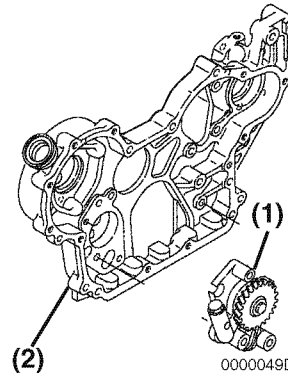

Figure 9-30
3. Reinstall the oil pump assembly (Figure 9-30, (1)) into the gear case housing (Figure 9-30, (2)). Tighten the bolts to specified torque.